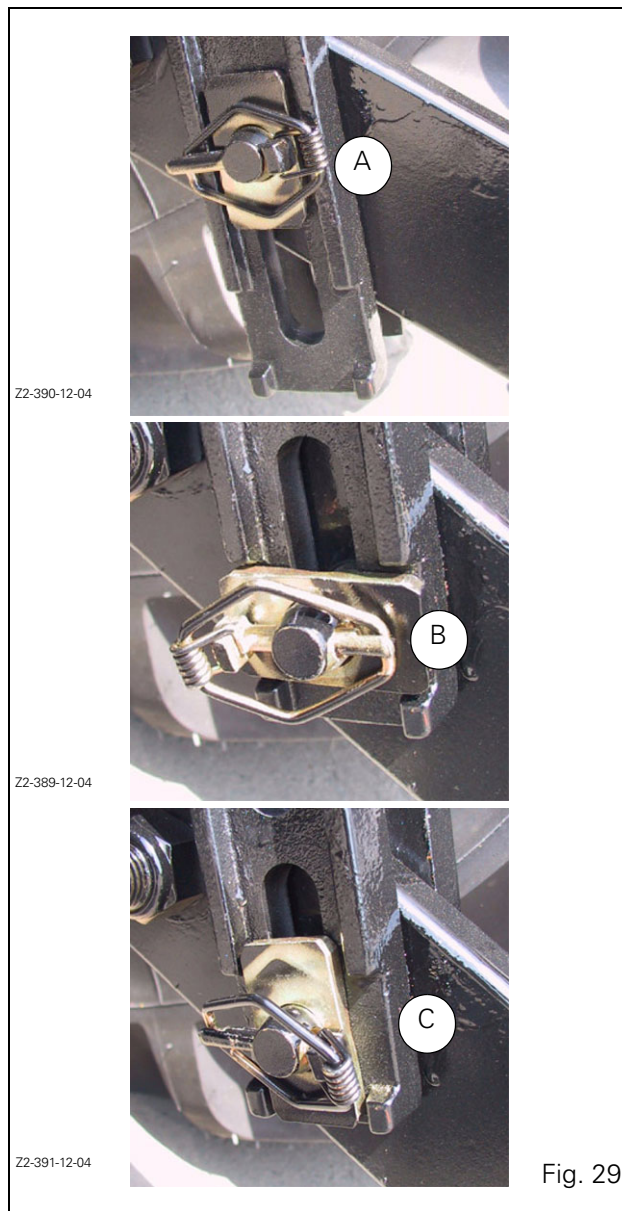

Fig. 29
- fixed high position (A Fig. 29)
- fixed low position (B Fig. 29)
- floating position (C Fig. 29) for wide implements or implements with a depth wheel